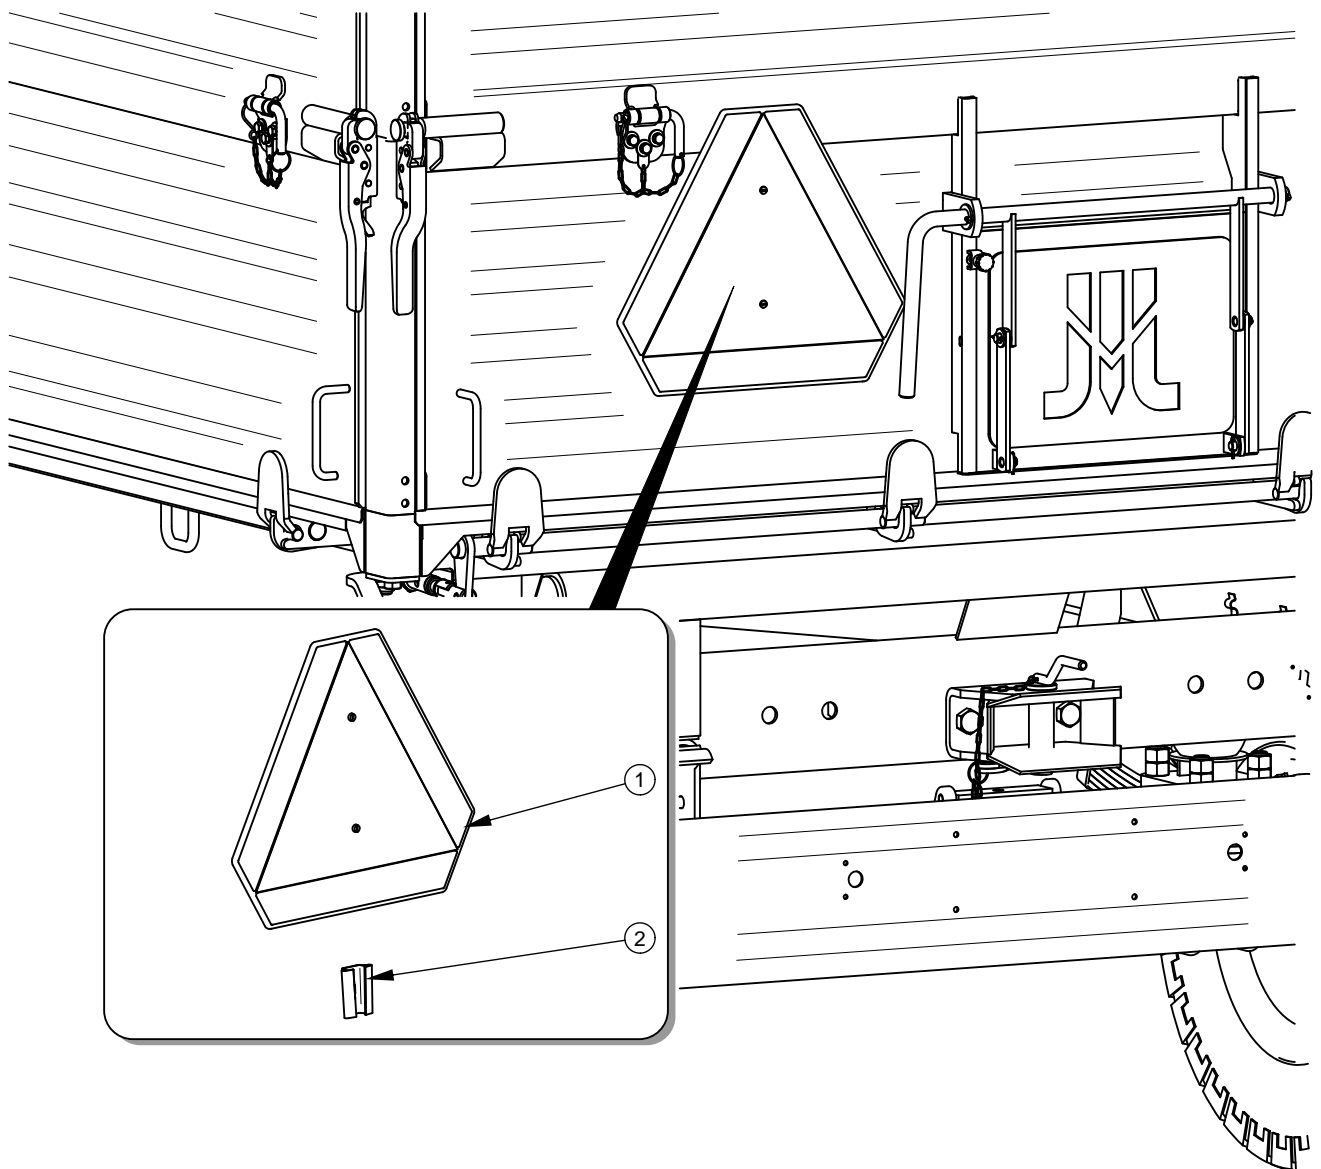

FIGURE 2.2 Mounting place for slow-moving vehicle sign
(1) warning sign, (2) attachment point
- If the trailer is the last vehicle in the group, a slow-moving vehicle sign should be placed on the trailer's rear load box wall – (figure 2.2). The warning sign (1) should be attached using the specifically prepared holder (2), riveted to the rear wall of the load box.